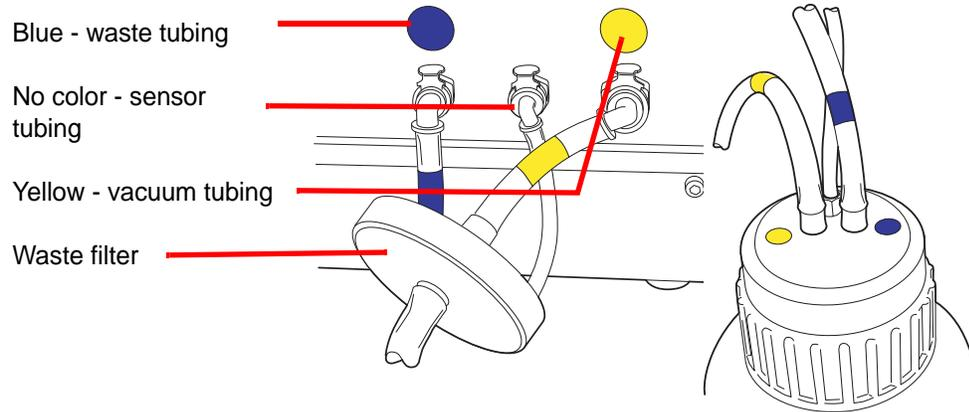

Figure 8-15 Waste Bottle Tubing Connections
3. Locate the three waste bottle connections at the rear of the ThinPrep 5000 processor. Refer to Figure 8-15. Ensure that the buttons of the connectors are in the down/inward position.